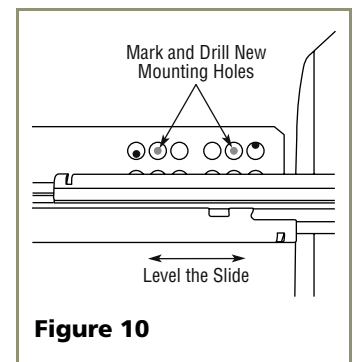

Figure 10
4. Mark new front drilling holes using a different set of mounting holes on the slide. See **Figure 10**.